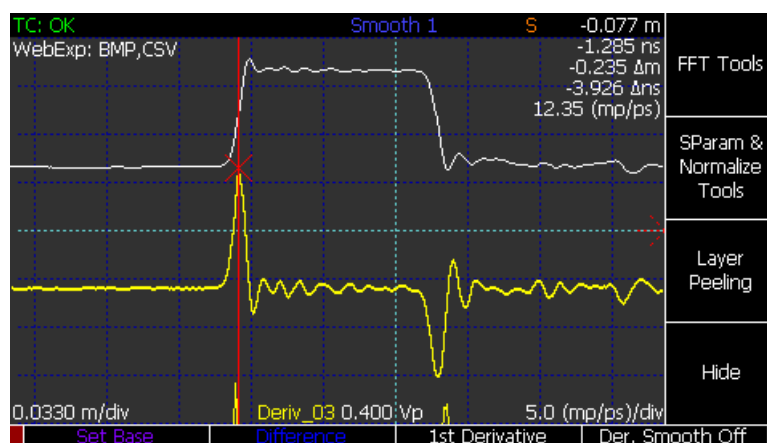

Figure 33: First-derivative trace (yellow).
- 5) A new trace is created that displays the first derivative of the base trace. See Figure 33.